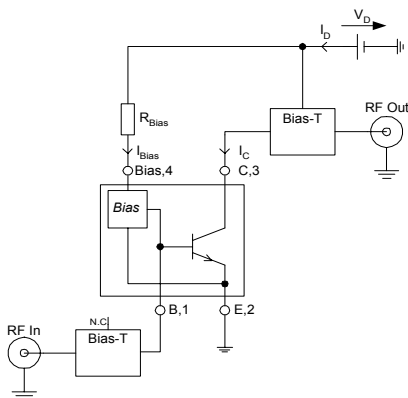

Fig. 2: Test Circuit for Electrical Characteristics and S-Parameter
**Electrical Characteristics** at  $T_A=25^\circ\text{C}$  (measured in test circuit specified in fig. 2, min./max. values verified by random sampling)